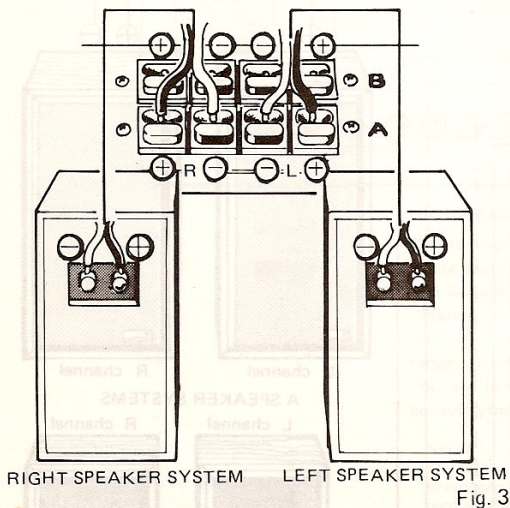

Fig. 3
- As shown in Fig. 3, the right channel speaker (seen from listening position) is connected to terminal R and the left channel speaker to terminal L.